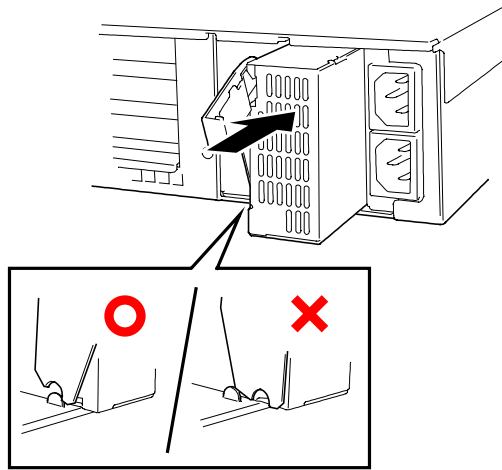

Figure 4-66. Installing a Power Supply
6. Insert the power supply unit. Confirm the power supply handle is securely hooked. See Figure 4-66.